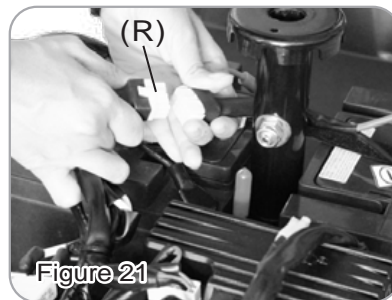

Figure 21
Detach the Main Wiring Harness (R) from the scooter. (See Fig. 21).